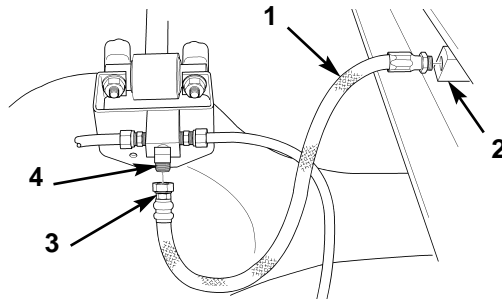

Figure 6. Installing Hose Assembly.
1. Install NPT end on hose assembly (figure 6, item 1) on NPT fitting (figure 6, item 2) until tight.
2. Connect opposite end of hose assembly (figure 6, item 1) to flared fitting (figure 6, item 4) and tighten swivel nut (figure 6, item 3).